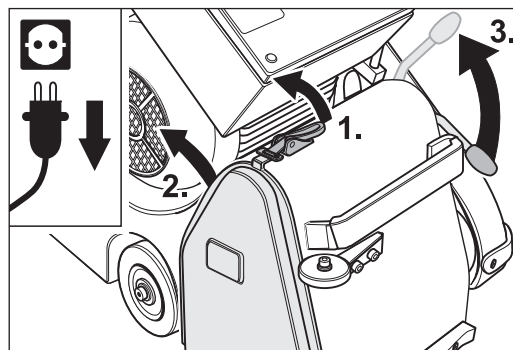

Fig. 8 Release the cover lock (1.), remove the side cover (2.) and lower the tensioning roller by pulling up the operating lever (3.).
- 8 Release the cover lock (Fig. 8, 1.) and remove the side cover on the right of the machine housing (Fig. 8, 2.).
- 9 Pull the operating lever of the drive unit upwards (Fig. 8, 3.). This will lower the tensioning roller.